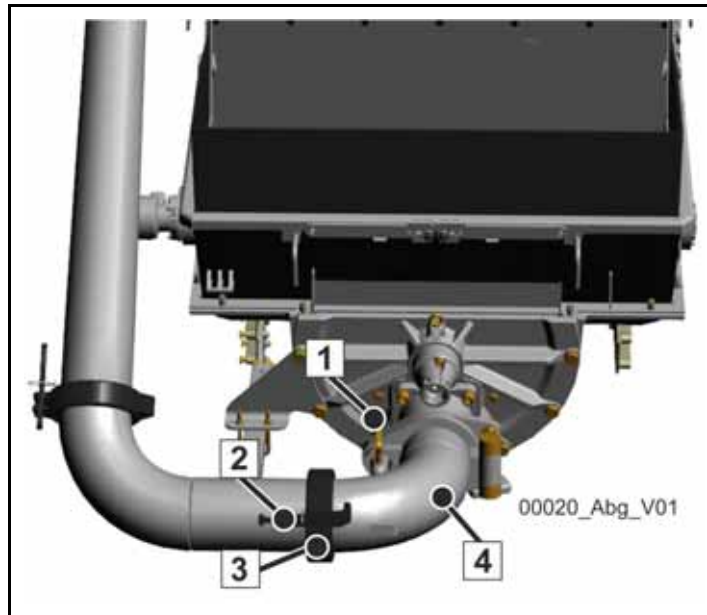

Fig. 343
- b) Remove the wedges (1+2) and the coupling (3) for truck-mounted concrete pumps.
- Swivel the outlet for the boom (4) to the side and secure with a wedge (1), (**Fig. 343**).